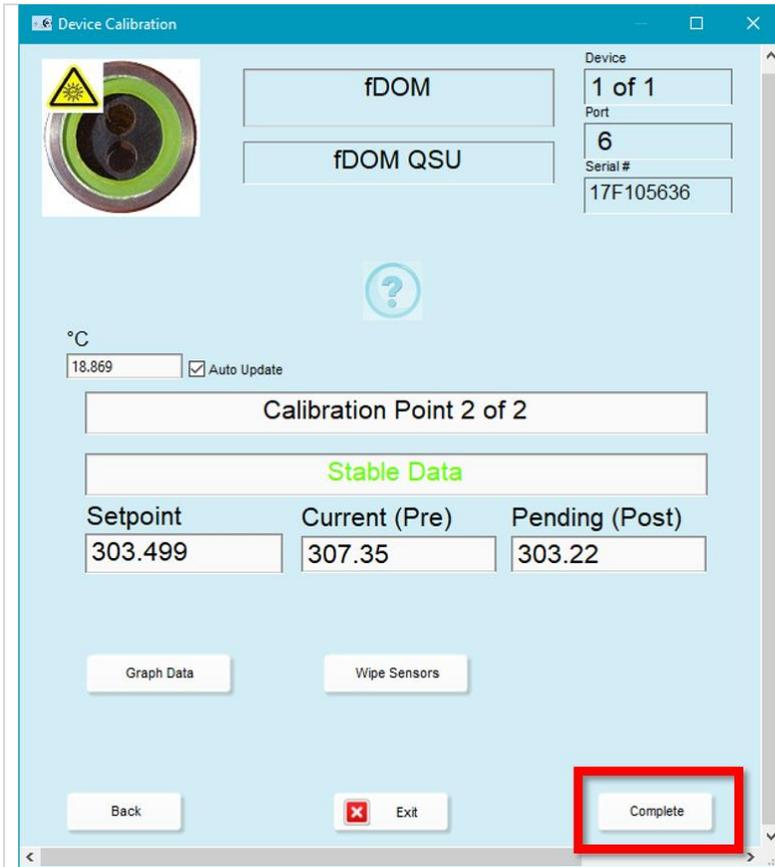

Figure 116. Click "Complete" when the Data are Stable
**STEP 5** | Click **“Apply”** then **“Complete”** when the data are stable for the second calibration point (Figure 116).